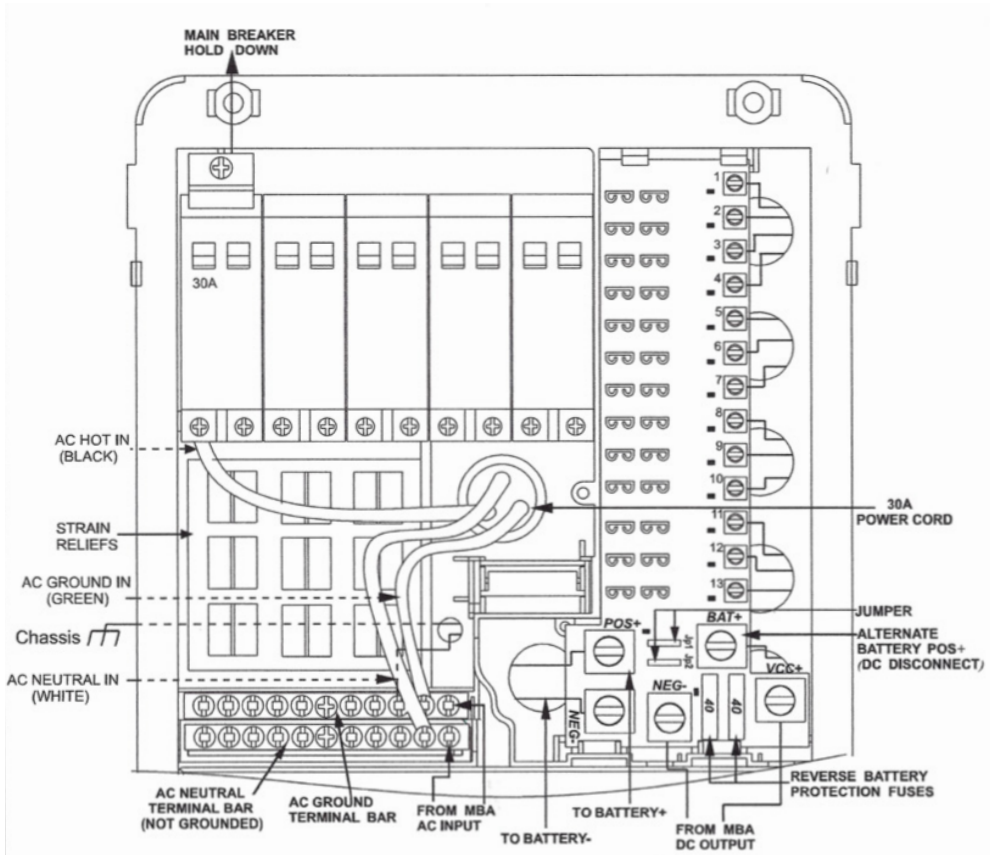

Figure 6
**\*\* Make sure no AC power is coming into the RV from either the Shore Power cord or an on-board generator.** Determine the proper size breakers for the loads the WF-8500 Series will be powering. You can use either single or duplex breakers, or a combination of both. We recommend that all the breakers used be of the same brand. When using duplex style circuit breakers, a total of 10 breakers can be mounted in the WF-8500 Series, 1 Main breaker and 9 Branch breakers. Refer to the tables on pages 5 and 6 for a selection of approved breakers. The Main breaker should be 30 Amp and is to be installed in the left-most position. See the wiring diagram (Figure 6) on page 13. A hold down clip is provided to keep the breaker securely in place.